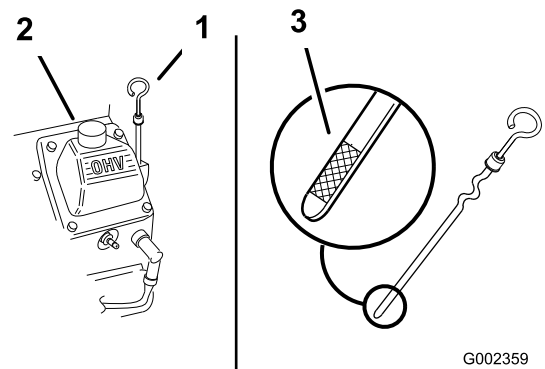

Figure 163
- Clean the area around the oil-fill cap and dipstick (Figure 163).